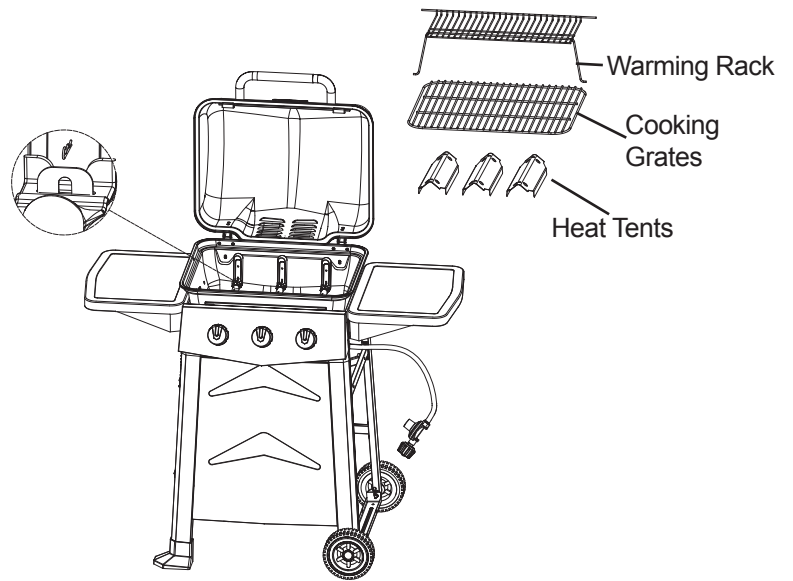

Figure 1
3. Remove hinge pin as illustrated in Figure 1.